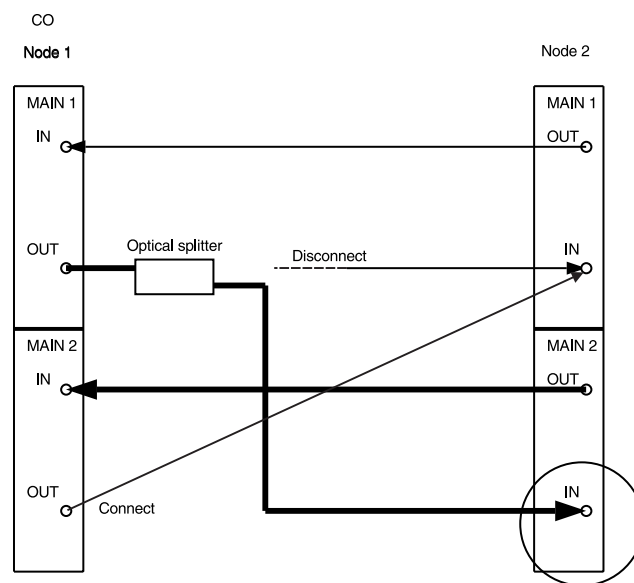

Figure 7. DDM-2000 OC-3 Drop or Add/Drop Network to Ring Upgrade
17. Disconnect the optical splitter output from the fiber going to Node 2 **MAIN 1 IN** and connect the fiber to Node 1 **MAIN 2(P) OUT**. (See Figure 7.)